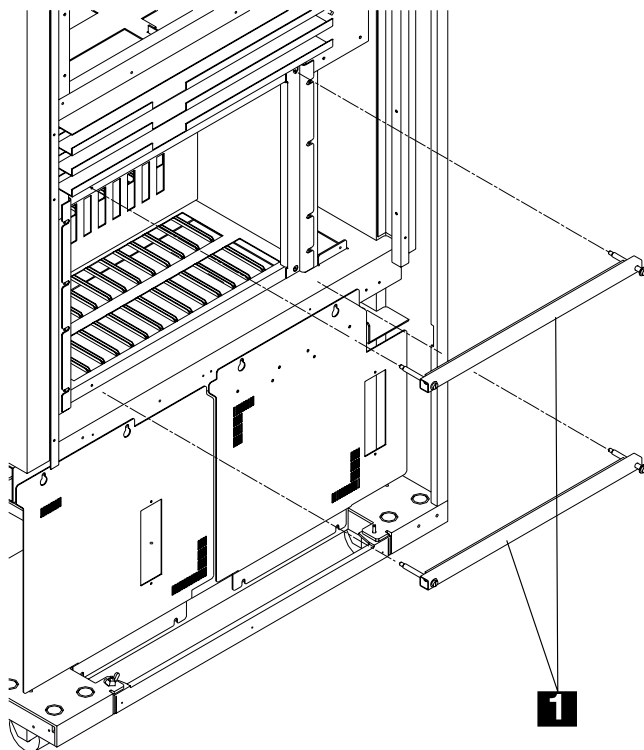

Figure 2-2. Shipping Bars
**Note:** These red shipping bars keep the cards in the boards during the transportation and are located on the upper and lower sides of the board (front and rear sides of the 3746-950) see Figure 2-2.